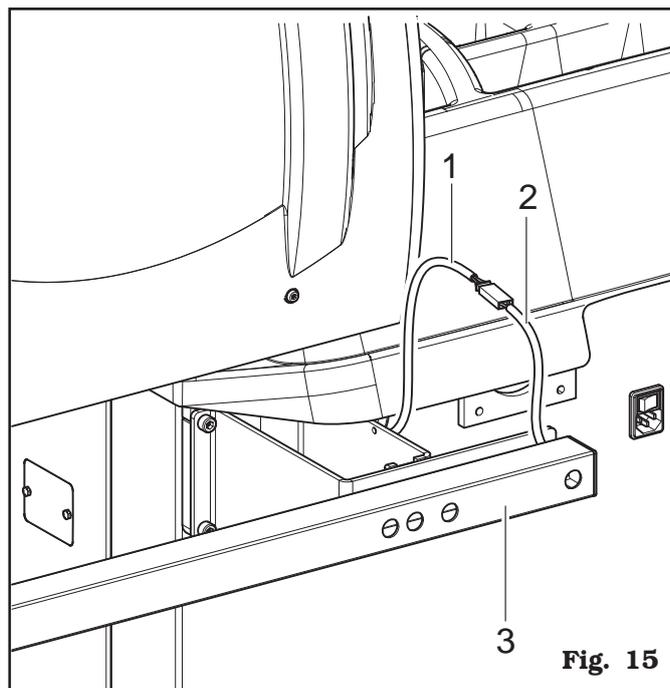

Fig. 15
4. Connect connector (**Fig. 15 ref. 1**) of the cable coming from inside the machine to connector (**Fig. 15 ref. 2**) of the cable coming from the gauge arm. Fit the section of the cable with the connectors inside the arm (**Fig. 15 ref. 3**).